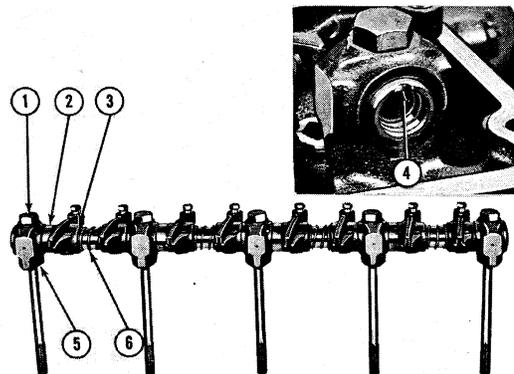

Figure 13
2. ROCKER SHAFT: Coat all the components with engine oil and position the notch on the front of the rocker shaft upwards to locate the oil holes correctly, Figure 13.
3. Start the assembly from the shaft rear end and secure the rocker arm support with a long bolt, Figure 13, and proceed with the spacer, rocker arm, spring and rocker arm support. Repeat the procedure until complete.